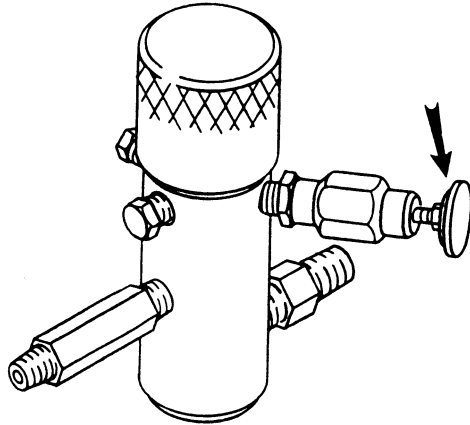

FIGURE 4
6. Open the Pressure Bleed Valve by turning it counterclockwise. This relieves pressure. See Figure 4.
- D. Close Pressure Bleed Valve by turning it clockwise. This allows the system to pressurize. Hold gun trigger open, without spray tip attached, until the fluid flows smoothly. See Figure 4.
screw. See Figure 4.
6. Place the spring on the brush as shown in Figure 4. Push in and hook the spring clip. Repeat this procedure for the other side. Reinstall the inspection covers.